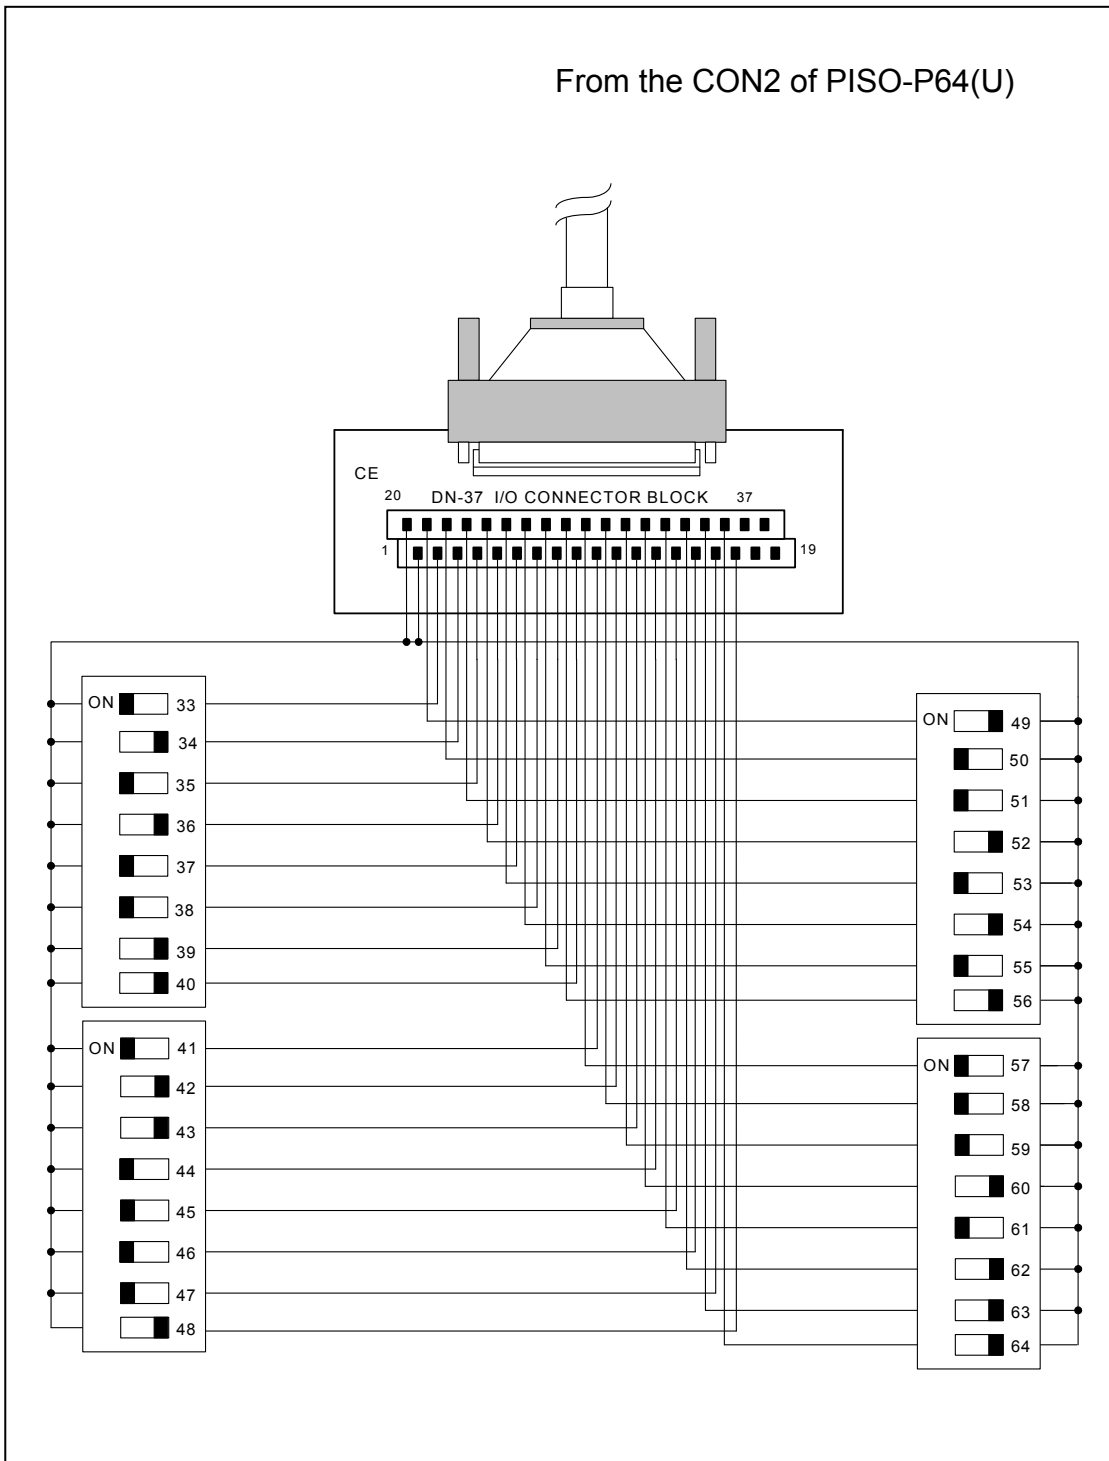

Figure 4-2-3. The circuit diagram of external device 2 for the digital inputs of PISO-P64(U)
- Refer to Figure 4-2-3 for the circuit diagram of external device 2